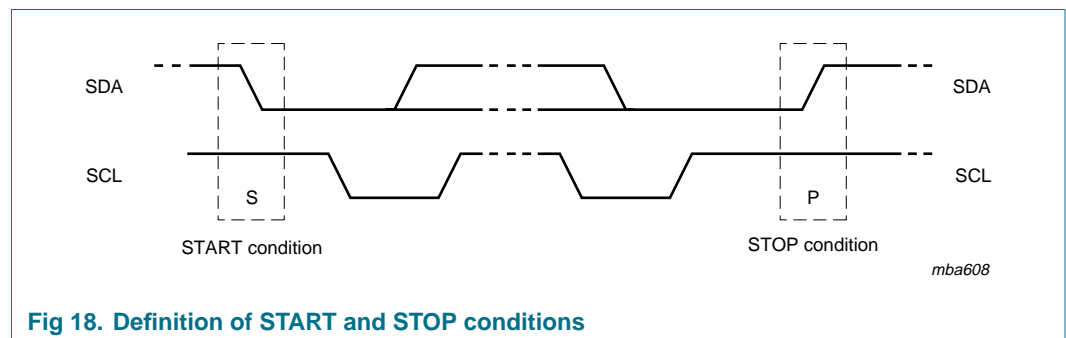

Fig 18. Definition of START and STOP conditions
Both data and clock lines remain HIGH when the bus is not busy. A HIGH-to-LOW transition of the data line while the clock is HIGH is defined as the START condition (S). A LOW-to-HIGH transition of the data line while the clock is HIGH is defined as the STOP condition (P) (see Figure 18.)